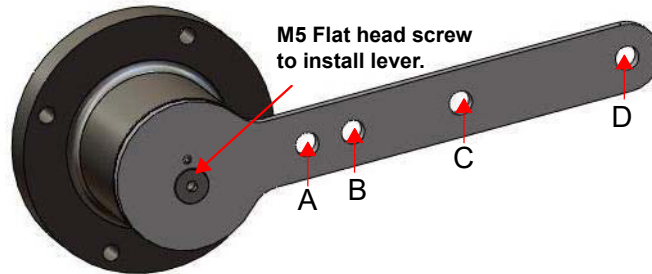

Figure 18 - Magnet Holder and Standard Lever for Reciprocating Valves
2. Ensure that the lever is pinned to the magnet assembly and held securely by an M5 flat head screw to ensure that the magnet axis is vertical when the lever is in the valve closed position. Tighten the lever screw securely (Figure 18).